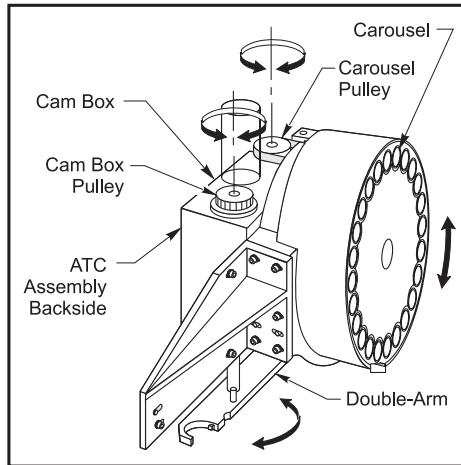

Figure 3.12-4 Pulley locations and ATC movement
3. Install each tool holder through the spindle. Attach the tool pocket to the carousel. Apply blue loctite to the Torx and torque to 15 ft-lbs (1/4-20) / 23 ft-lbs (5/16-18). Manually rotate the carousel for each tool pocket installation. Re-install the pocket stop and slider. Refer to Figure 3.12-3. The carousel can be rotated by manually rotating the carousel pulley by hand. See Figure 3.12-4